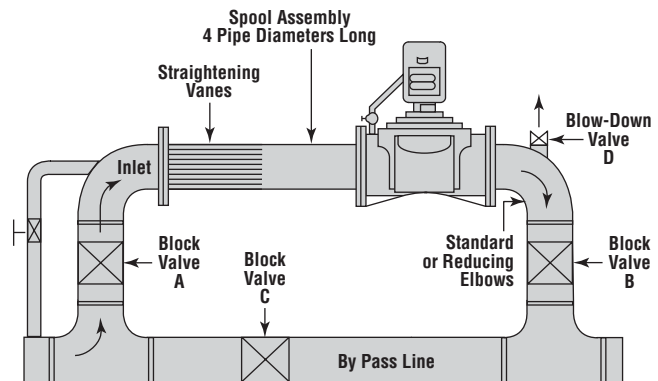

Figure 5
- B.** An installation of a by-pass line around the meter is recommended for all piping configurations (refer to figure 5.)
Provision for a controlled pressure blow-down of the meter run should be made. The blow-down should be located between the meter outlet flange and the downstream block valve (shown in figure 5). While Turbo-Meters can be operated up to 150 percent of maximum rated capacity for short periods of time with no damaging effects, over-sized blow-downs can cause speeds greatly in excess of this amount. On inside meter sets, blow-down should not be sized larger than one-sixth the meter size as described in the following table:
Start-Up (Refer to Figure 5)
On high pressure installations, a valved bypass around the inlet riser block valve ("A" in Figure 5) is recommended. Usually constructed of 3/4" pipe, with a needle-type valve, the by-pass permits pressurizing of the meter run without damaging the meter. Once the inlet pressure has been achieved, as indicated by lack of any registration on the meter, the needle valve is closed and Steps #2, #3 and #4 in start-up procedure should be followed.
Shut Down (Refer to Figure 5)